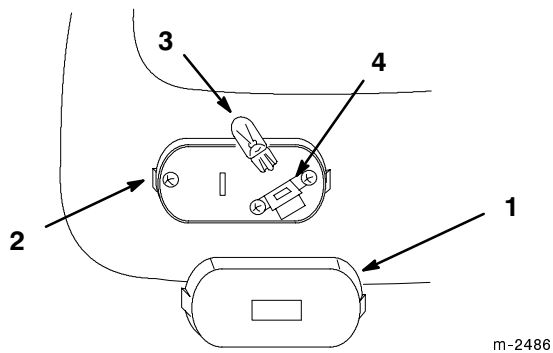

Figure 39
2. Inserting a screwdriver into slot and twist to remove lens (Fig. 39).
1. Align the bulb base with socket and push into position (Fig. 39).
2. Align and snap the lens onto the base (Fig. 39).